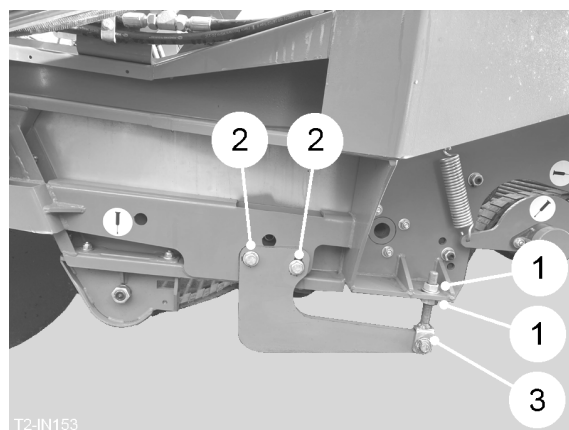

Fig 6
To adjust the angle of the shares loosen the locknuts (item 1, fig. 6) on both sides of the machine, slacken mounting bolts (item 2, fig. 6) and re-position adjuster (item 3, fig. 6). Ensure both sides are adjusted evenly by measuring from the tip of the outer shares up to the disc support bridge above. The points of the share should be kept as high as practicable whilst still maintaining adequate digging depth. Lowering the points will assist penetration but may increase risk of crop damage. If the soil has been adequately cultivated this should not be necessary. If the pitch is too steep (points lowered) it can greatly increase the loading or 'bulldozing' effect on the share frame, especially when in hard or tough conditions. Regularly check for soil build-up on the share frame (especially in wet conditions) as a pad of soil at this point will create a considerable braking effect on the digger web. Ensure that the share frame is not in contact with the web bars at this point.